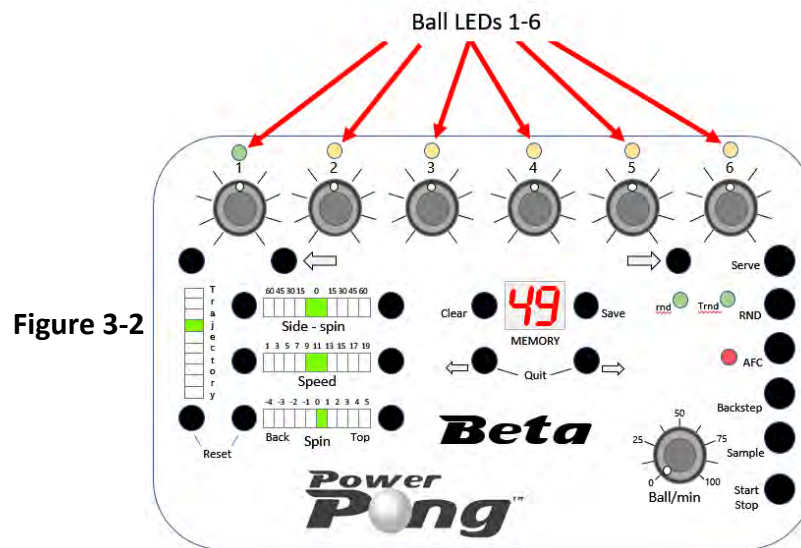

Figure 3-2
3.2.2 Ball LEDs 1-6 (Figure 3-2)